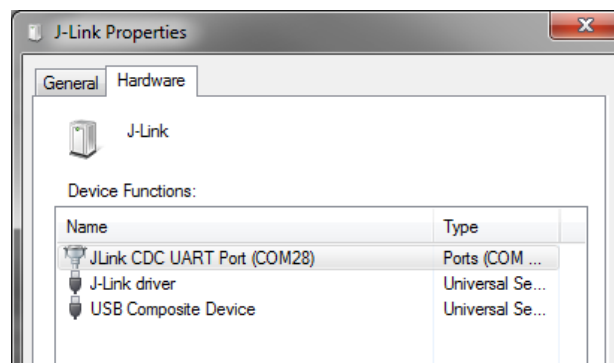

Figure 8 DWM1001 Device COM port over J-Link
- 3) Double click the J-Link icon, go to Hardware tab and find the COM port with number as the device name (e.g. in Figure 8 below J-Link is device name is COM28).